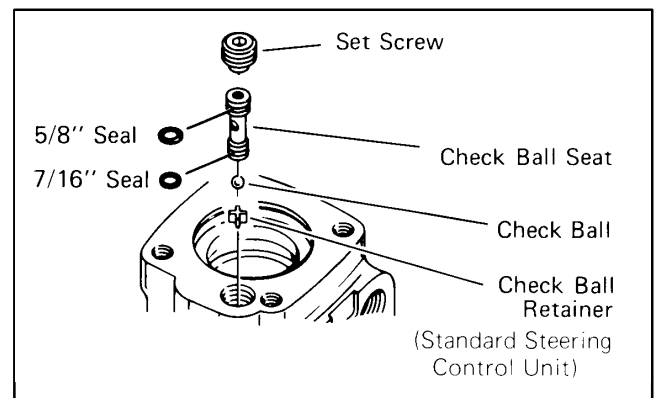

Figure 37
1. Use a needle-nose pliers to lower check ball retainer into check valve hole of housing. Make sure retainer is straight (not tilted on edge) in housing, see Fig. 37.
3. Lubricate 5/8" diameter seal and 7/16" diameter seal. Install seals on check ball seat as shown in Fig. 37.
4. Lubricate check ball seat and seals thoroughly before installing seat in housing. When installing seat, do not twist or damage seals. Install check ball seat in housing, insert open end of seat first, see Fig. 37. Push check ball seat to shoulder of hole.